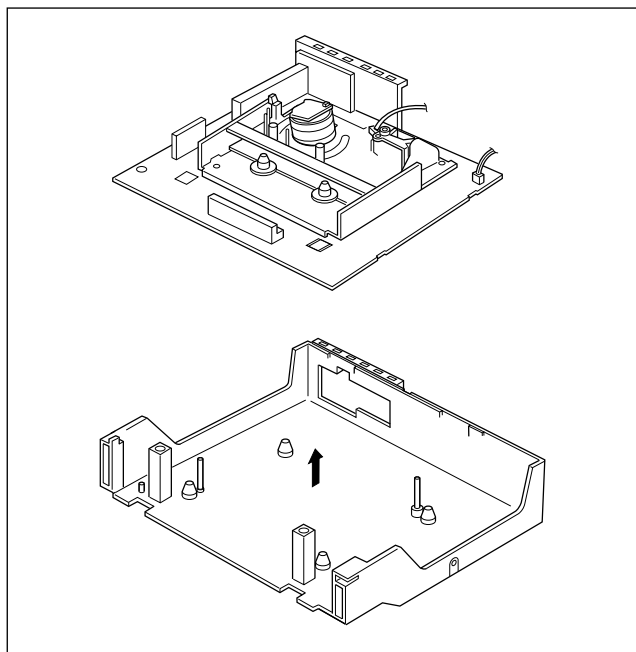

Fig. 1-4-2
- (4) Remove the Main board and Mechanism assemblies together while holding the edge of the Main board assembly. At this stage be careful of the power cord and prongs of the jacks on the back side. (See Fig. 1-4-2.)